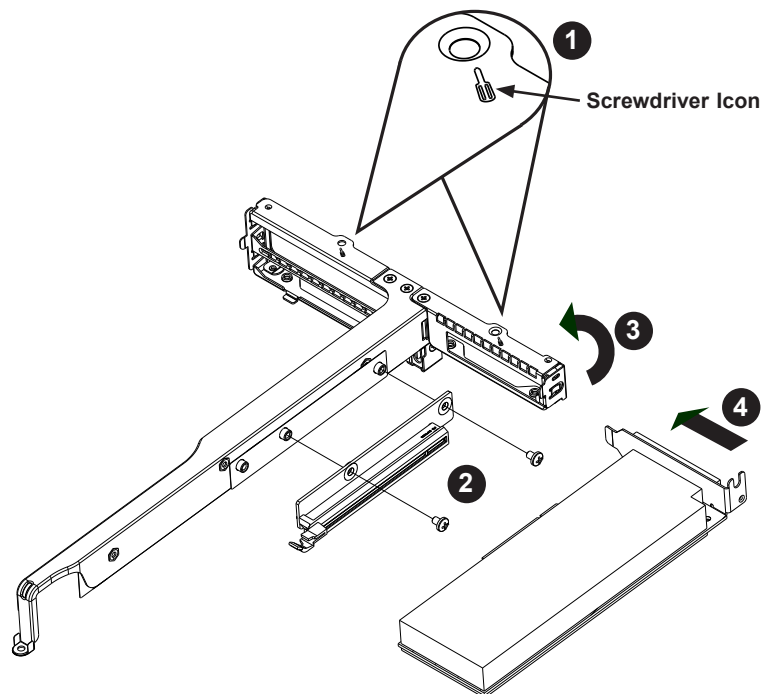

Figure 3-7. Left Riser Card Bracket Installing a Low-Profile Card
1. Remove the riser card bracket from the chassis by unscrewing only those screws indicated by the screwdriver icon as illustrated in Figure 3-7. Lift the bracket with the riser card from the chassis.